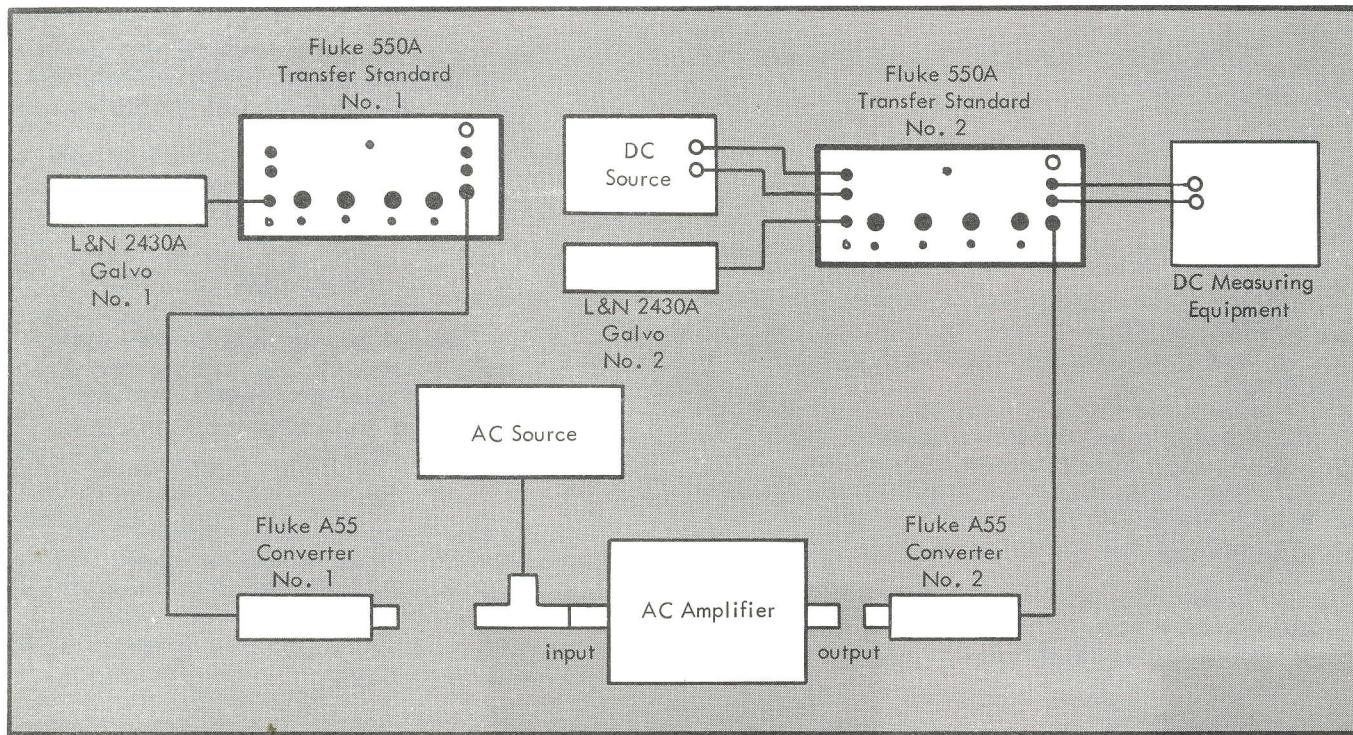

Figure 2-8. FREQUENCY RESPONSE SETUP DIAGRAM FOR AC AMPLIFIERS
- a. Connect the equipment as shown in Figure 2-8. The dc source must be floating. The thermal converters used must have a voltage rating equal to or greater than the rms value of ac voltage to be measured.
- (1) Depress the SEARCH SENSITIVITY pushbutton and adjust the SEARCH SENSITIVITY control for a null. If  $1\%/\text{mm}$  to  $6\%/\text{mm}$  resolution is sufficient, proceed to step g.
- (2) Depress the LOW SENSITIVITY pushbutton and adjust the LOW SENSITIVITY control for a null. If  $0.1\%/\text{mm}$  to  $0.6\%/\text{mm}$  resolution is sufficient, proceed to step g.
(3) Depress the MEDIUM SENSITIVITY pushbutton and adjust the MEDIUM SENSITIVITY control for a null. If  $0.01\%/\text{mm}$  to  $0.06\%/\text{mm}$  resolution is sufficient, proceed to step g.
(4) Depress the HIGH SENSITIVITY pushbutton and adjust the HIGH SENSITIVITY control for a null. Resolution is approximately  $0.001\%/\text{mm}$  to  $0.006\%/\text{mm}$ .